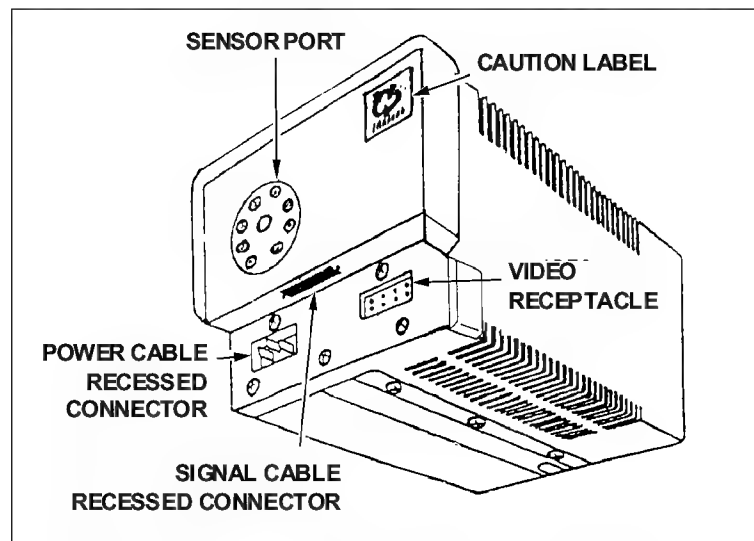

Figure B-11. Sight assembly—rear panel.
(3) The sensor port, power connectors, video receptacle, and recessed analog, digital, and audio jacks are located on the rear panel of the sight assembly (Figure B-11). The trainer may record launch tube movements from the reflector assembly via a sensor port. A CAUTION label designates the sight assembly as a sensitive electronic device.